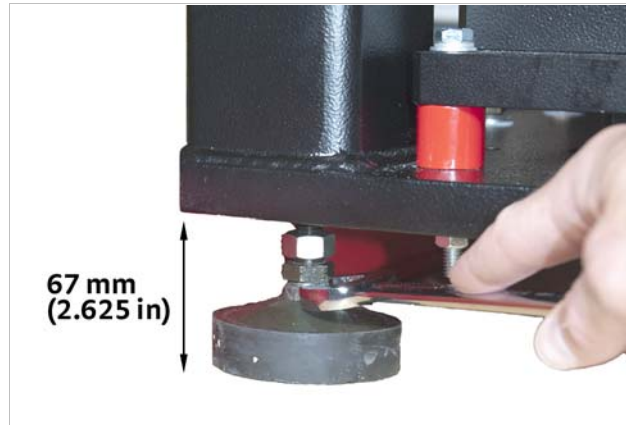

FIGURE 3-6 Lowering the probe station foot (red cross braces are not shown for clarity)
- a. Using a 3/4 in or adjustable wrench, lower the four feet of the probe station outer stand (FIGURE 3-6).
- b. Lower each of the four probe station outer stand feet until the bottom of the probe station stand is approximately 73 mm (2.875 in) from the floor. This will take the weight of the probe station off of the long red cross braces. For uneven flooring, it is acceptable if the bottom of the feet are lowered up to 85 mm below the bottom of the stand (FIGURE 3-6).